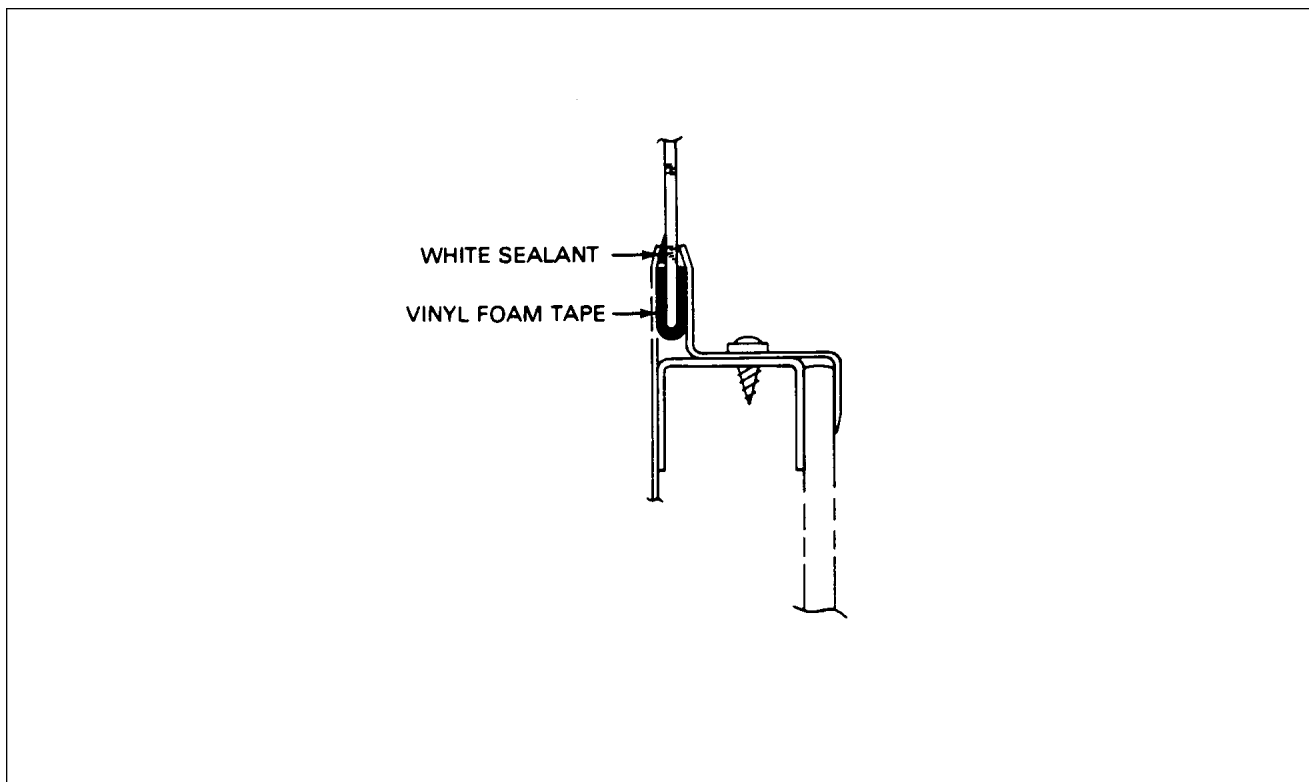

Figure 56-2. Single Pane Side Window Installation - Typical
B. INSTALLATION OF SIDE WINDOWS. (Refer to Figure 56-2.)